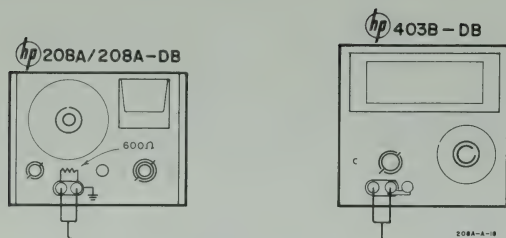

Figure 5-7. Test Setup for Frequency Response and Output Voltage Check
- Connect AC voltmeter and 600 ohm load to oscillator output as shown in Figure 5-7.